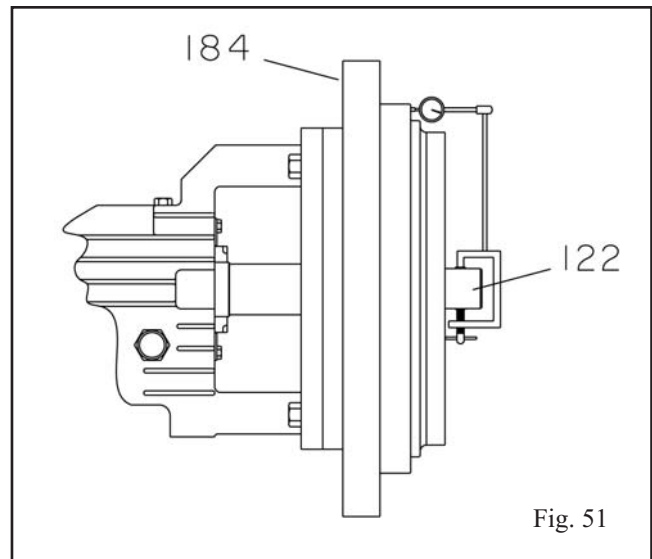

Fig. 51
- a. Mount dial indicator on shaft (122) as shown in Fig. 51.
- b. Rotate shaft (122) so indicator rides along the seal chamber cover (184) gasket face for 360 degrees. If total indicator reading is greater than 0.13 mm (.005 in.), determine cause and correct.